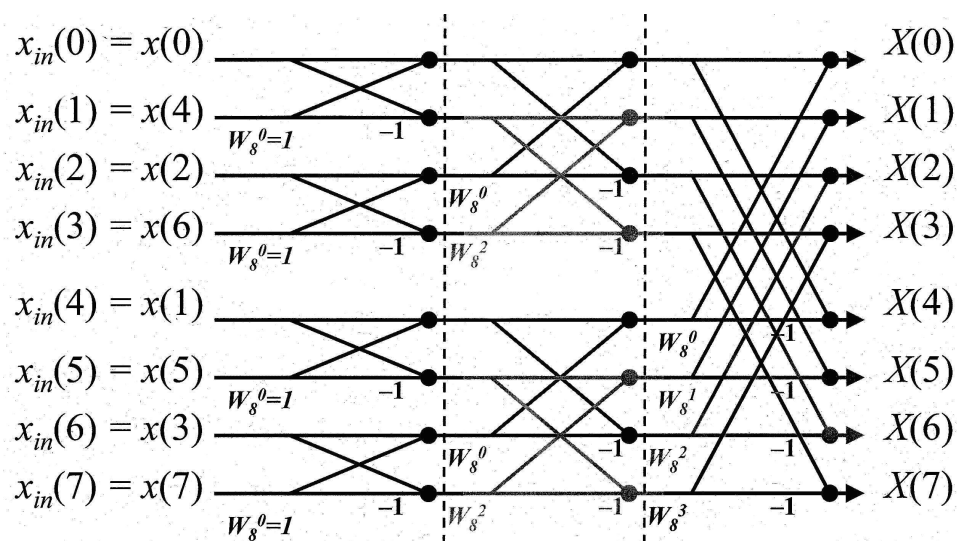

Figure 2.2.: 8-point FFT (3 stages)
An 8-point FFT (DIT) is illustrated in Figure 2.2. Analyse this signal-flow diagram by solving the prep tasks.
1. Put the values of  $x_1[n]$  in the correct order according to Figure 2.2. Calculate (e.g. by hand) the output values of the first, second and last stage according to Figure 2.2 and assign the values to the nodes in the graph.